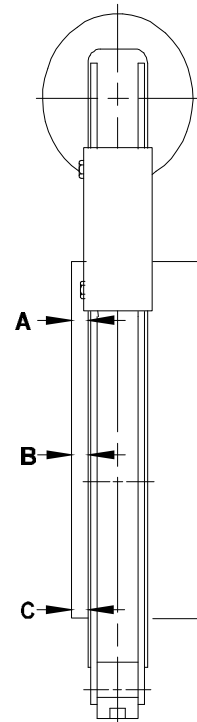

Figure 6
- 2.3.2 Apply and release the air pressure to the brake to open and close the brake shoes. Observe dimensions A, B and C, as shown in Figure 6. Dimensions A, B, and C should be identical top to bottom, as well as front to back, with the brake either engaged or released.